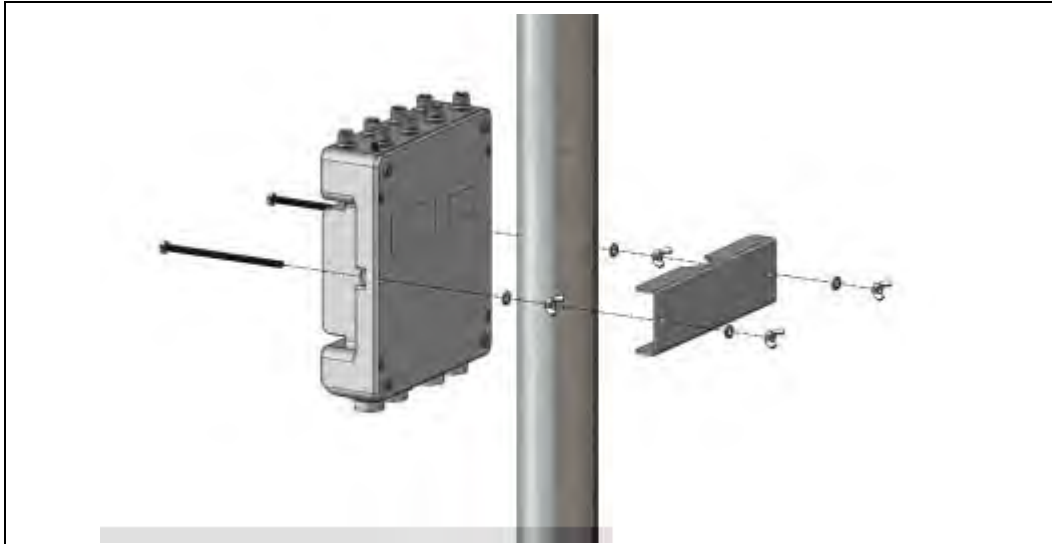

Figure 2.3. Mast mounting the ES2440
- 3 Position the ES2440 at the desired position on the mast, with the underside of the chassis facing toward the mast and the front panel facing down, as shown in Figure 2.3.